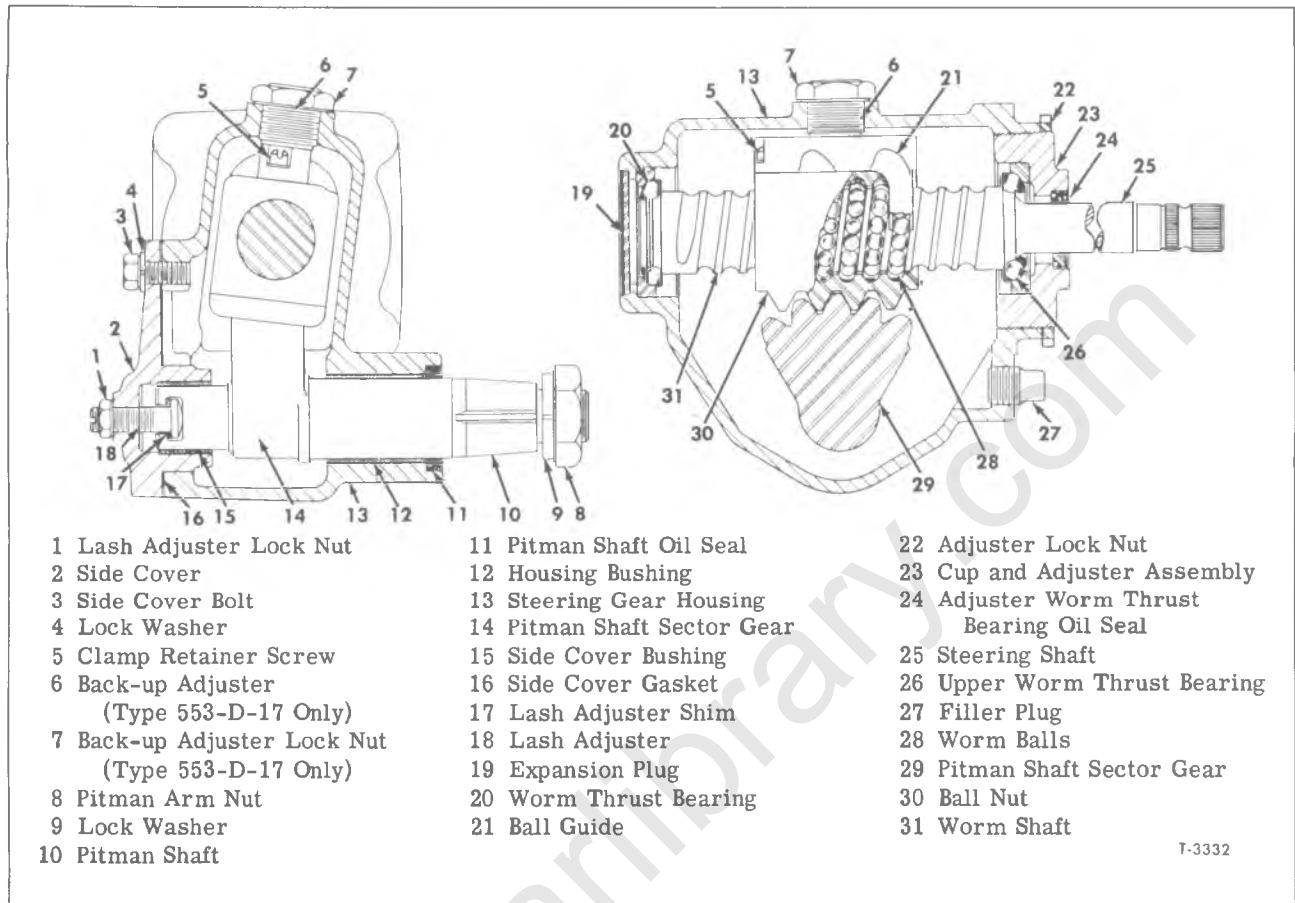

Figure 1—Type 549-D and 553-D Steering Gear
The type 549-D and 553-D steering gear assemblies shown in figure 1 have an adjuster assembly at shaft end of gear housing for adjustment of worm thrust bearing; lip-type oil seals at steering worm and Pitman shaft; shims for adjustment of Pitman shaft lash, and bushings in gear housing and side cover. A back-up adjuster is used on the 553-D-17 type steering gear to prevent the worm shaft from flexing up and down. Figure 5 shows tilt cab steering gear and linkage components.
1. Loosen adjuster lock nut (22) (fig. 1) at shaft end of steering gear and turn worm bearing adjuster screw (23) clockwise until there is no per-